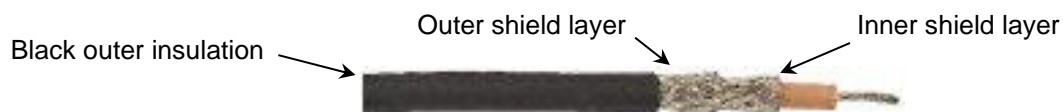

Figure 24. RG400 Co-Axial Antenna Cable
- The cable used for the Antenna should be high quality, such as RG400 (Shown in Figure 24). This cable has a double layer of shielding and better RF insulation than other cable types. Note that the coaxial cable included in most antenna kits tends to have a single layer of insulation. BNC connectors are recommended for most applications, and wherever possible crimped connectors which require a special crimper to assemble should be used. Crimped connectors are much less prone to RF leakage or assembly issues than other types (such as screw-together BNC connectors).